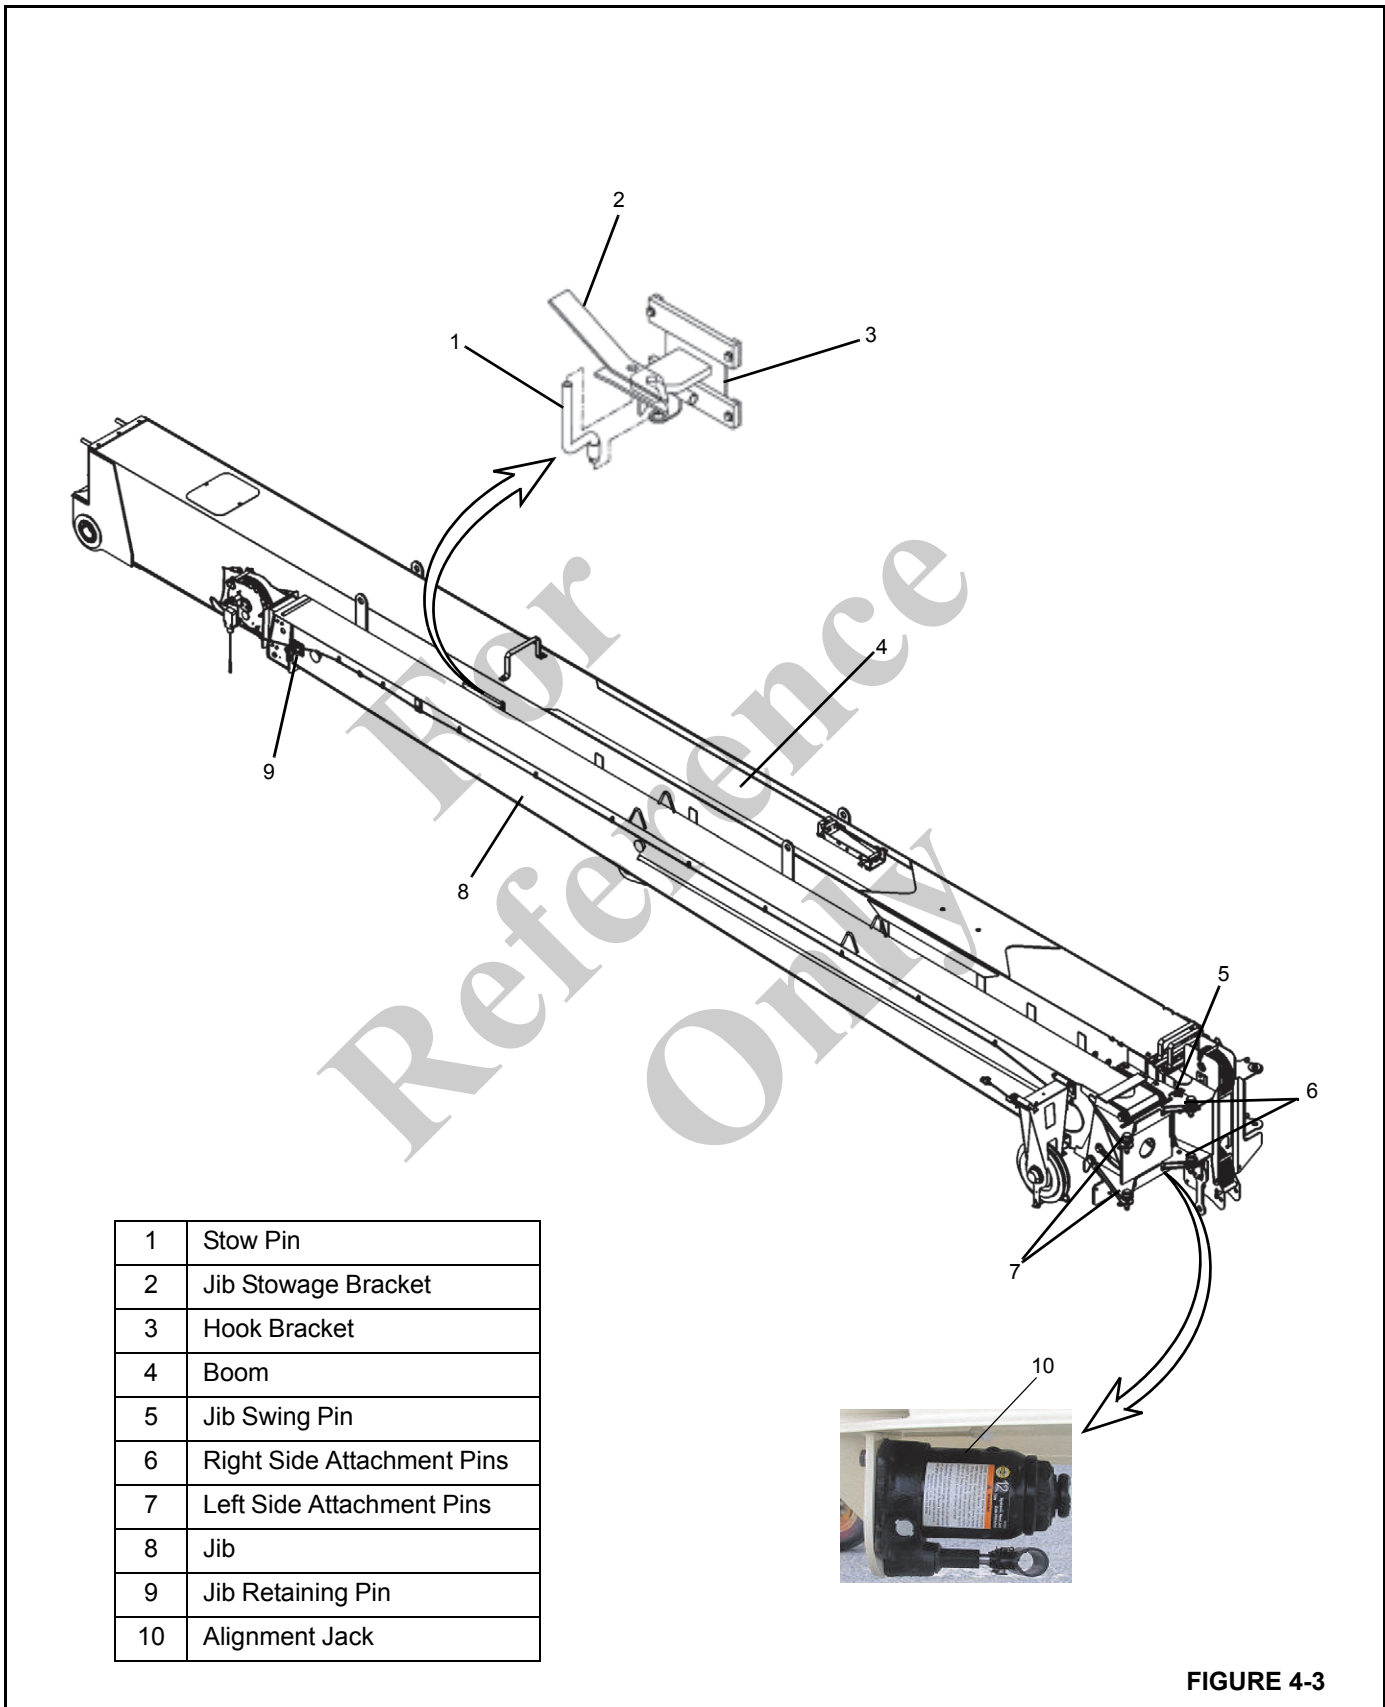
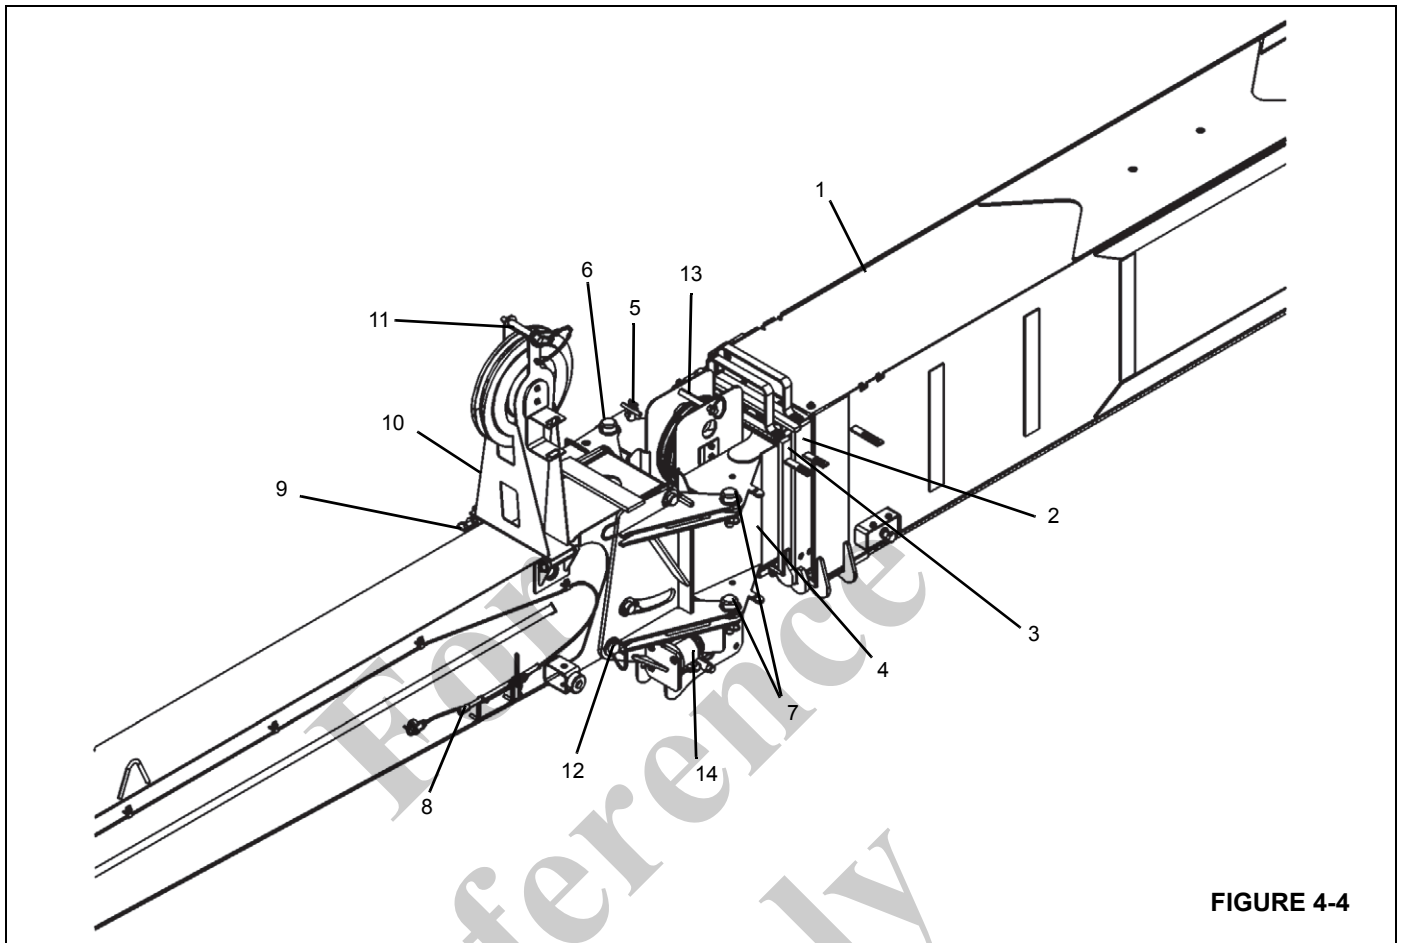

FIGURE 4-3
FIGURE 4-4
6. Ensure jib is stowed correctly (Figure 4-3):
- a. Removal of right side attachment pins (6), without proper installation of stow pin (1) and jib swing pin (5), may allow jib to fall off.
- b. Extending boom with jib stowed and failure to remove right side attachment pins (6), will damage unit upon extension.
7. Only swing jib into working or stowed position when boom is horizontal, stow pin (1, Figure 4-3) and jib swing pin (5) are removed and right side attachment pins (6) are in place. Jib could swing uncontrollably if boom is not horizontal.
12. Do not extend/retract boom unless boom is horizontal when stow pin (1, Figure 4-3) and jib swing pin (5) are removed during stowing or unstowing procedures.
1. Jib retaining pin (9, Figure 4-3) must always be installed when operating.
3. Extendable section may slide out of 1st section jib when jib retaining pin (9, Figure 4-3) is removed. Keep personnel clear of area.
2. Using lift function, lower boom so that attachment pins (6 and 7, Figure 4-3) are easily accessible from the ground.
4. Install right side attachment pins (6, Figure 4-3) in upper and lower jib lugs, secure with retainer spring clips. These pins are used as a pivot point to swing jib into the deployed position.
5. Locate the stowed position of attachment pins (7, Figure 4-3). If in jib attachment holes or boom sheave case jib holes, remove pins from storage location.
6. Remove jib swing pin (5, Figure 4-3) from top lug of jib.
7. Remove stow pin (1, Figure 4-3) and stow in hook bracket (3), secure with spring clip.
10. Using telescope function, slowly extend boom approximately 30 cm 12 in. This procedure will pull the jib out of the hook bracket (3, Figure 4-3).
12. Install upper left attachment pin (7, Figure 4-3) and spring clip. A slight hammer strike may be necessary to install pins. Always use proper eye protection during this step.
13. Use the alignment jack (10, Figure 4-3) to align lower left side attachment pin (7, Figure 4-3).
- a. Remove the jack handle (8, Figure 4-4) from the boom stowage bracket and check that the jack release valve is closed.
- b. Extend the alignment jack (10, Figure 4-3) so that the lower left pin holes (7, Figure 4-3) are aligned.
- c. Install the lower left side attachment pin (7, Figure 4-3) and spring clip.
- d. Open the jack release valve and retract the jack (10, Figure 4-3).
19. Install jib swing pin (5, Figure 4-3) and spring clip into jib lugs.
20. For manually extendable jib, pull jib retaining pin (9, Figure 4-3), and extend second section out by pulling on sheave case. The second section jib, as it extends, will hit a mechanical stop that allows for jib retaining pin (9, Figure 4-3) installation. Install pin (9) and spring clip.
- Both pins (6, Figure 4-3) in upper and lower jib holes properly in place through mating holes on boom tip.
1. Using lift function, lower boom so that side attachment pins (6 & 7, Figure 4-3) are easily accessible from the ground.
2. Two section jib - For manually extendable jibs, pull jib retaining pin (9, Figure 4-3) and fully retract extendable 2nd section into the tele 1. Retraction of 2nd section may be facilitated by attaching loadline wedge socket to jib nose. Slowly activate the hoist up function until the 2nd section is fully retracted.
3. Two section jib - Reinstall jib retaining pin (9, Figure 4-3) through the 1st and 2nd section jib assembly and install spring clip.
7. Remove spring clips from left side attachment pins (7, Figure 4-3 and Figure 4-4) on both upper and lower jib lugs.
8. Remove jib swing pin (5, Figure 4-3) from the boom nose.
9. Remove left side attachment pins (7, Figure 4-3 and Figure 4-4) from upper and lower jib lugs. Do not remove right side attachment pins (6) at this time. The right side
12. Using tag line attached to jib sheave case, slowly swing jib into stowed position (parallel with tele 1 boom), the right side attachment pins (6, Figure 4-3) are the jib pivot points during this operation.
13. Install jib swing pin (5, Figure 4-3) with spring clip through jib lug and boom sheave case holes. This pin will keep the jib assembly in line (parallel) with the 1st section boom.